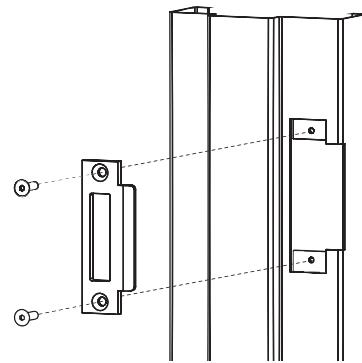

Figure 3
- Install two (2) 1/4-20 socket cap flat head screws. (Figure 3)